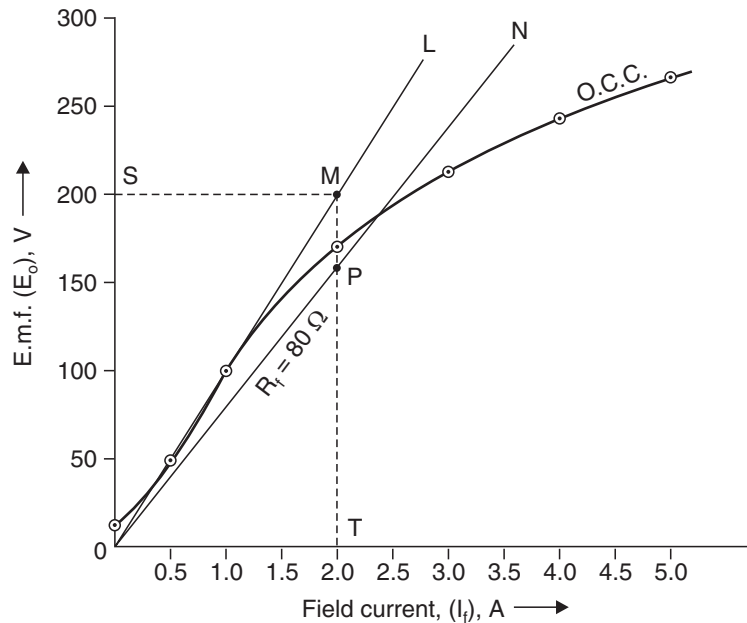

Fig. 48
• Plot O.C.C. from the given data as shown in Fig. 48.